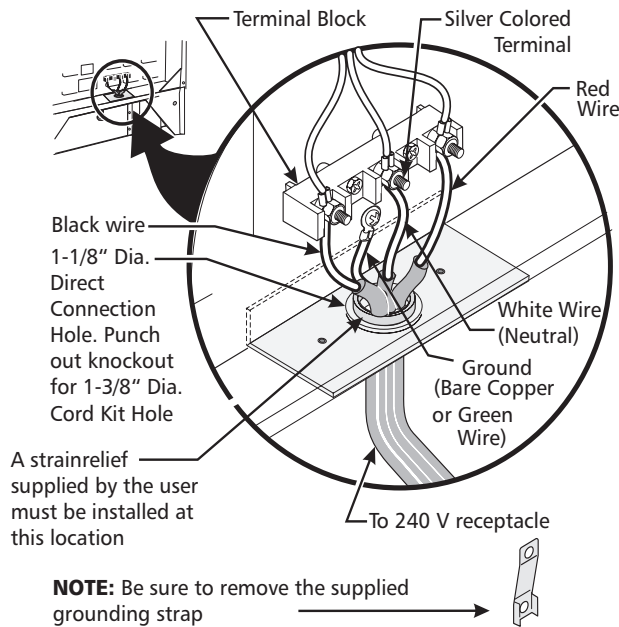

Figure 4
For mobile homes, new installations, recreational vehicles, or areas where local codes do not permit grounding through neutral, a 4 conductor power supply cord kit rated at 125/250 volts 30 Amps marked for use with ranges should be used (see Figure 4).
4. Connect the ground wire (green) of the copper power supply cord to the frame of the appliance with the ground screw, using the hole in the frame where the ground strap was removed (see Figure 4).
6. Replace the 3 nuts on the terminal block (see figure 4).
If the appliance is connected directly to the circuit breaker, fuse box or junction box, use flexible, armored or nonmetallic sheathed copper cable (with grounding wire). Supply a U.L. listed strain-relief at each end of the cable. At the appliance end, the cable goes through the Direct Connection Hole (see Figure 4) on the Cord Mounting Plate. Wire sizes (**copper wire only**) and connections must conform to the rating of the appliance.